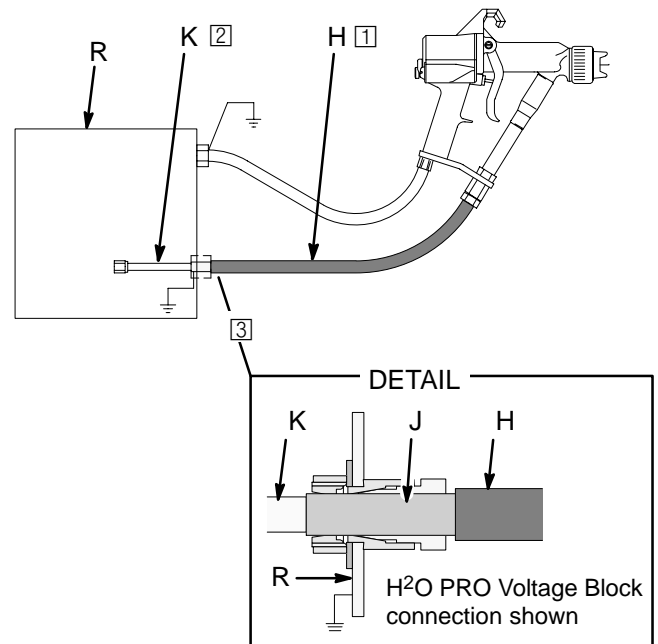

Fig. 6
8. Connect the other end of the hose to the isolated fluid supply as instructed in the voltage isolation system manual. See Fig. 6.
To reduce the risk of an electric shock, the areas of the waterborne fluid hose that are accessible to personnel during normal operation must be covered by the outer hose jacket (H). See Fig. 6.
KEY- Fig. 6